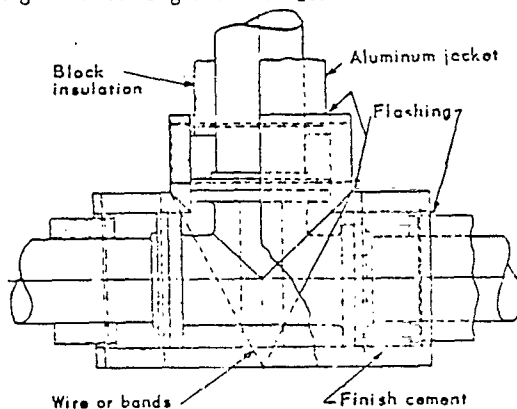

FIGURE 9
7.3 Flanged fittings and flanged valves shall be insulated with block or pipe insulation equal in thickness to the adjacent pipe insulation or 2 inches, whichever is less. The fitting insulation shall overlap the adjacent pipe insulation 2 inches or equal the pipe insulation thickness, whichever is greater. See Figures 9 and 10.